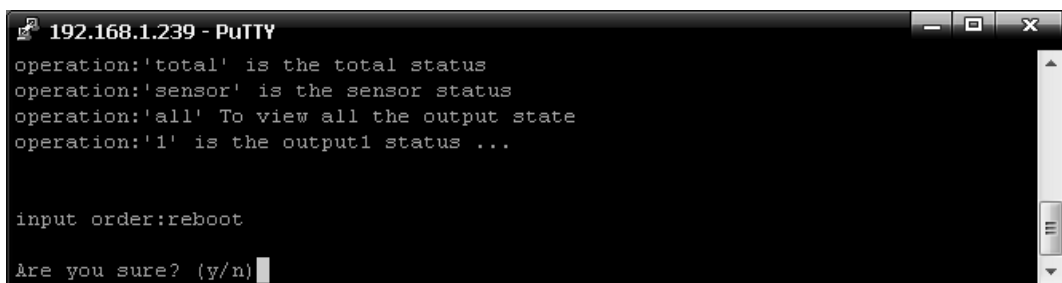

Figure 2-10
3.2.3.7 Reboot command: to restart to device as shown in figure 2-10